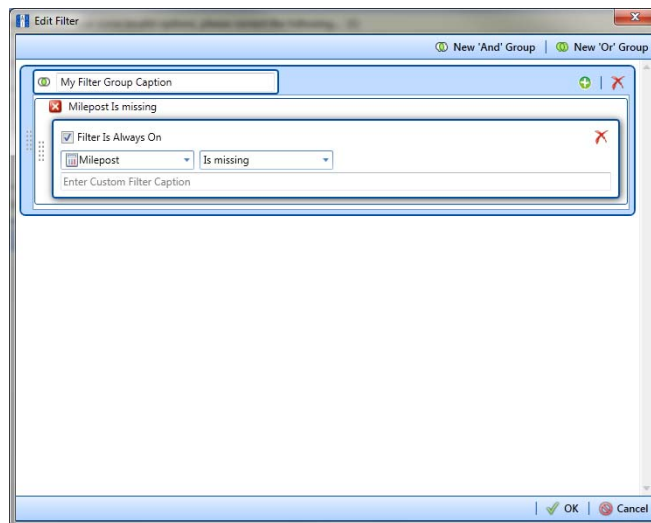

Figure 9-22. New 'And' Filter Group
- a Click  **New 'And' Group** to open the filter properties group box (Figure 9-22, page 408).